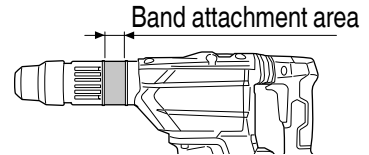

Fig. 14
(2) Place the band over the band attachment area and fit the band's two holes onto the "T" portion of the handle bolt. (Fig. 14, 15)